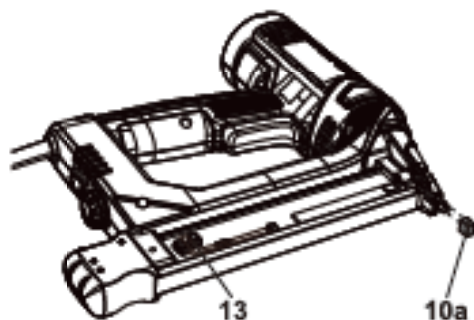

Fig. 15
Replace the damaged tip protector (10a) with the spare tip protector (13) (Fig. 15).